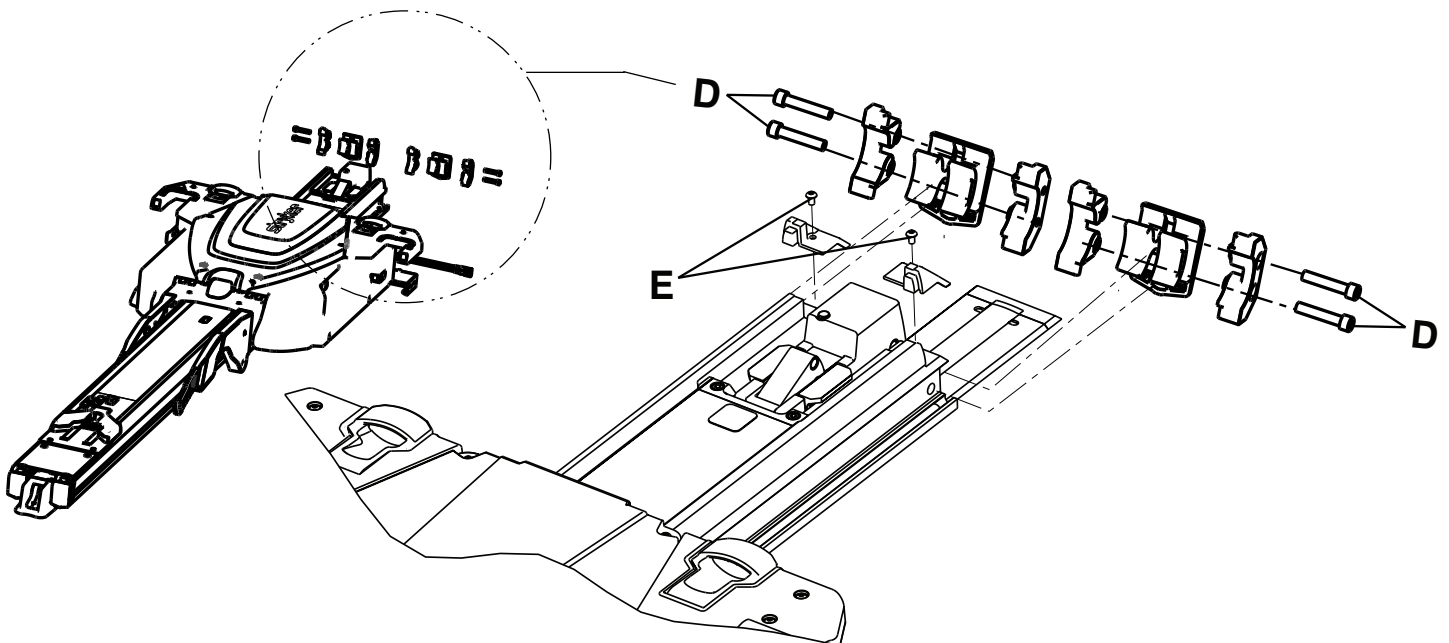

Figure 11 – Trolley screws
6. Using a T25 Torx driver, remove the two screws that secure the transfer trim (E) (Figure 11). Save the screws.
7. Using a 3/16" hex wrench, loosen (do not remove) the four socket head cap screws (two on each side) (D) that secure the dead stops to the transfer assembly (Figure 11).